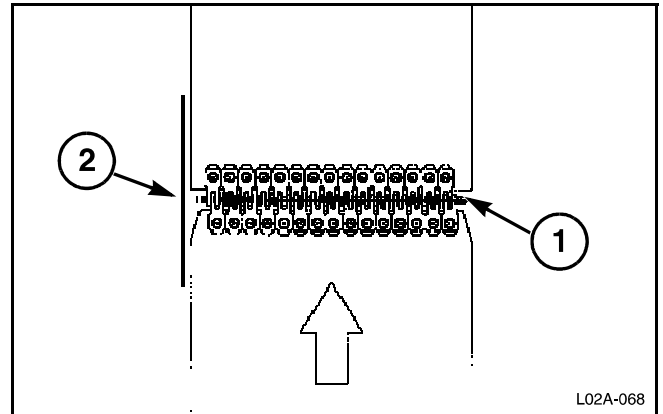

FIG. 8
FIG. 8: Align the lacing and install a lacing pin (1) to connect the two ends. See Forming Belt Replacement on page 3 in this section for more information on connecting the ends of the forming belts. The edges of the belts must align (2).